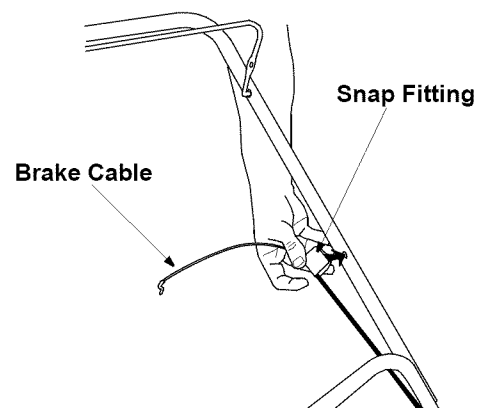

Figure 6
2. On the opposite end of the cable housing is a snap fitting. The shaft inside the snap fitting fits in the second hole on the upper handle. Press the snap fitting in place as shown in Figure 6. Make sure that the blade control handle is on top of the upper handle.